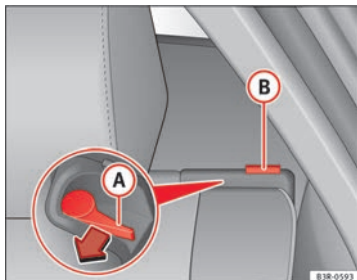

Fig. 116 Backrest release lever
- Press the release lever **A** ⇒ fig. 116 in the direction indicated by the arrow.